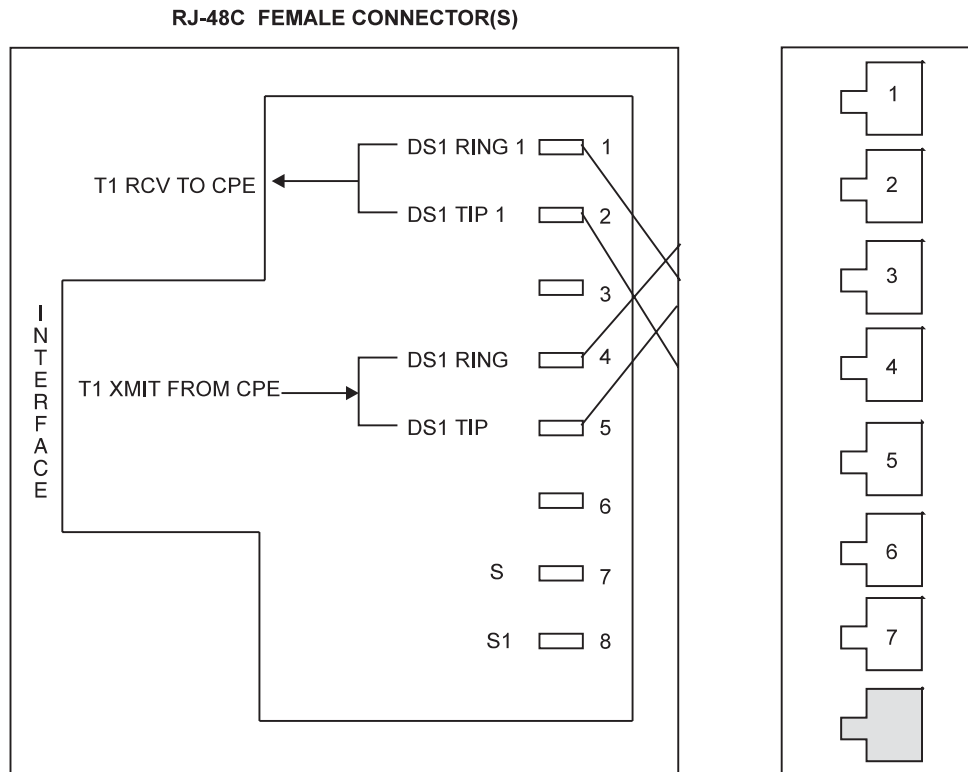

Figure 8. List 2 RJ-48X Pin Assignment. The RJ-48X jacks are located on the left side of the List 2 enclosure.
- ◆ **RJ-48X:** For List 2 enclosures, connect the DS1 leads to the RJ-48X jacks (see Figure 8 on page 13) located on the left side of the HRE-427.